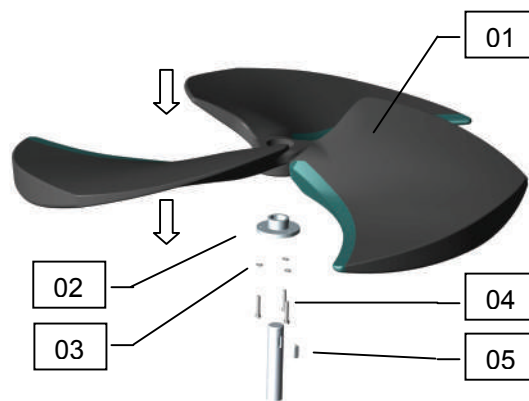
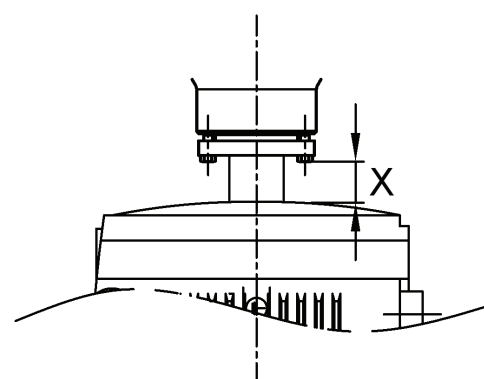

Figure 3
Figure 4
- Slip the bushing onto the drive shaft and check the key (5) for proper fit (figure 3). Be sure the shaft is completely through the bushing. Keep a bolt length as minimum distance x between bolts (4) and flange of the drive (figure 4).
- Install the impeller onto the bushing. Start bolts (4) by hand turning just enough to engage threads.